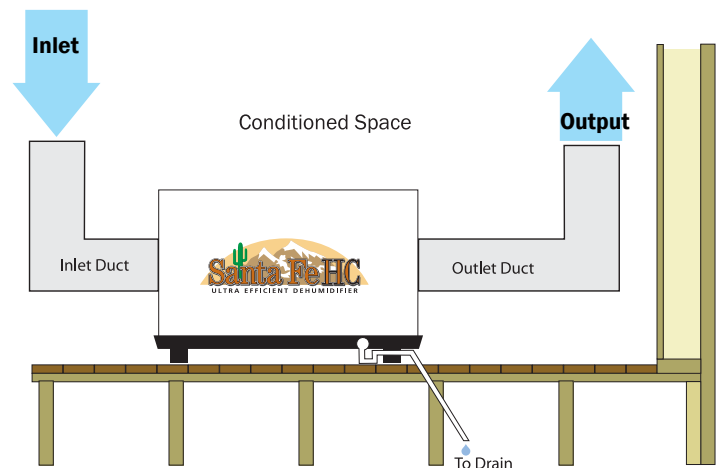

Figure 5: Installation in humid area with inlet and outlet ducting.
- **4.1B In The Humid Area, Duct Inlet and/or Outlet (Fig. 5)**